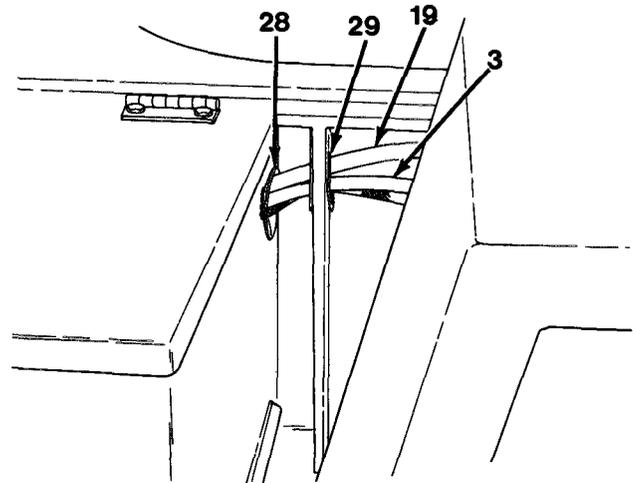

Figure 10-8
6. Thread cables (19) and (3) through flexible trim (29) and grommet (28, Figure 10-8).